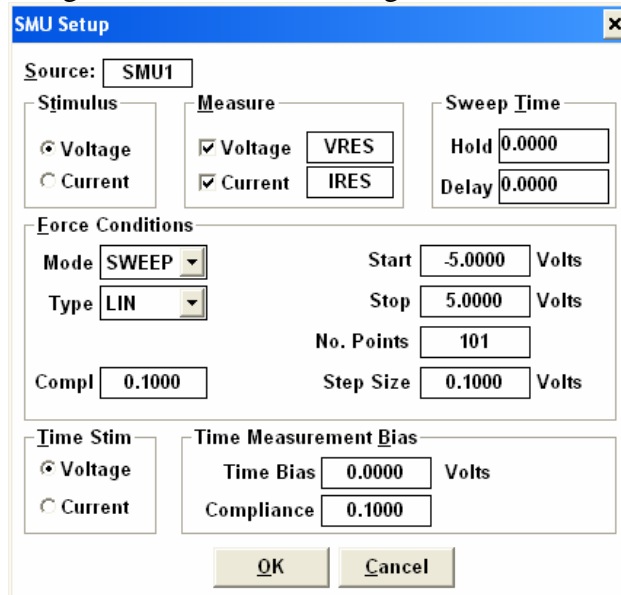

Fig. 6: Setting up an SMU
9. Now we need to program what the SMUs will do. Click on **SMU1** to bring up the **SMU Setup** dialog box. We want to provide a voltage stimulus, so make sure **Voltage** is selected under **Stimulus**. Check the boxes under **Measure** to measure both voltage and current at this SMU. The variable names for voltage and current can be renamed by the user; here they are renamed to **VRES** and **IRES** (Fig. 6).
10. We want to measure the I-V curve of the resistor from -5V to 5V, so select **SWEEP** as the **Mode** (under **Force Conditions**). Set the start and stop voltages, and the number of points or the step size. Your dialog box should look like Figure 6. Click **OK** when done.